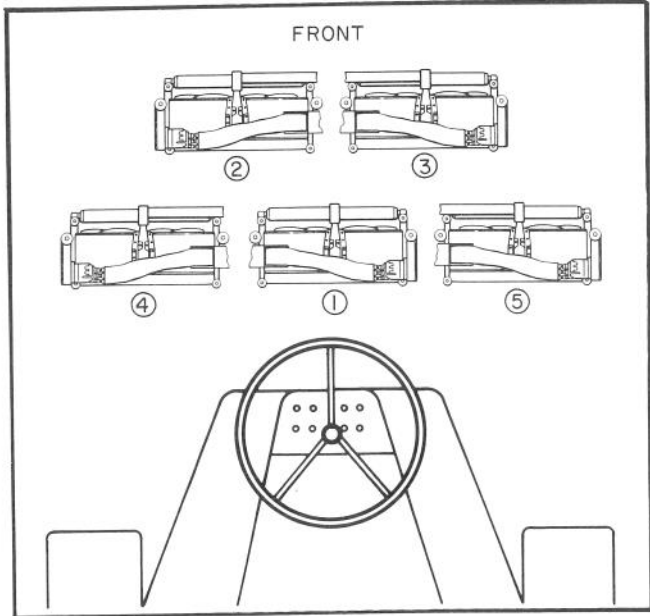

Figure 2
- A. Refer to Figure 2 and layout all five cutting units on the floor in front of the 450-D. Position 3 R.H. (right hand) cutting units (all three are alike) as #1, #3 and #5. Position the left hand #2 and #4 cutting units also (both are alike).